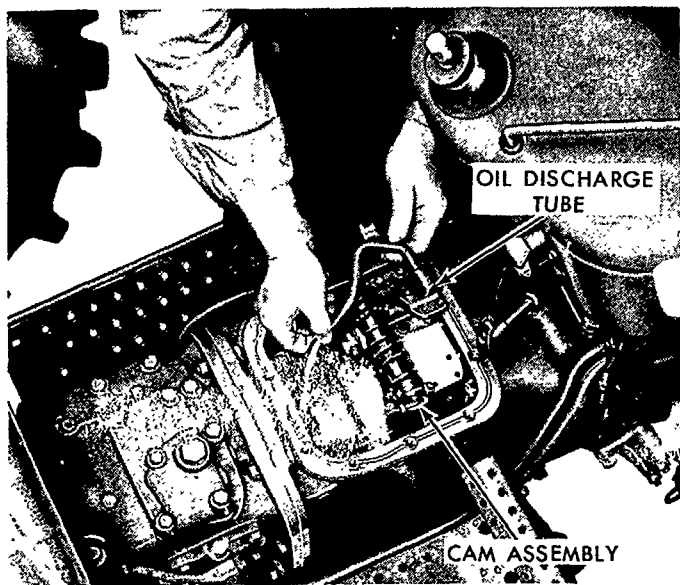

Figure 34
3. Lift out the manifold and tube as an assembly by lifting and threading the lower end of the tube from around the "C" ring gear assembly. Refer to Figure 34.